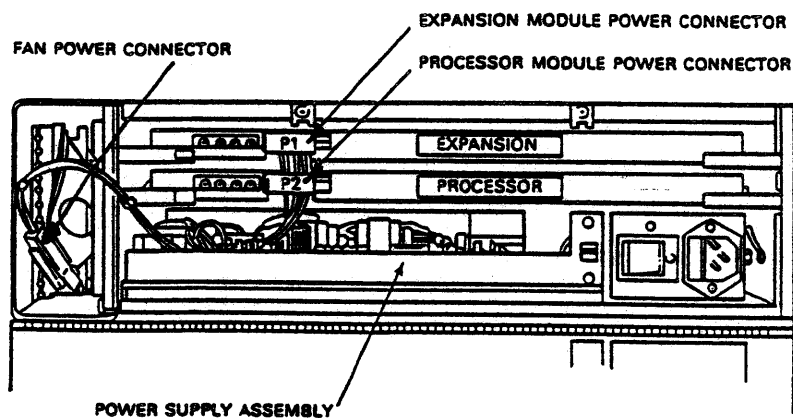

Figure 4-18 H3014 Distribution Panel with Rear Cover Open
5. Disconnect the power connector that is connected to the fan assembly (Refer to Figure 4-18).
6. Disconnect the power connectors from the processor module and the expansion module (Refer to Figure 4-18).
7. Remove the processor module (Refer to Figure 4-18).
8. Lift the power supply assembly (Refer to Figure 4-18) up about 1/2 inch and pull the assembly out of the H3014 chassis.